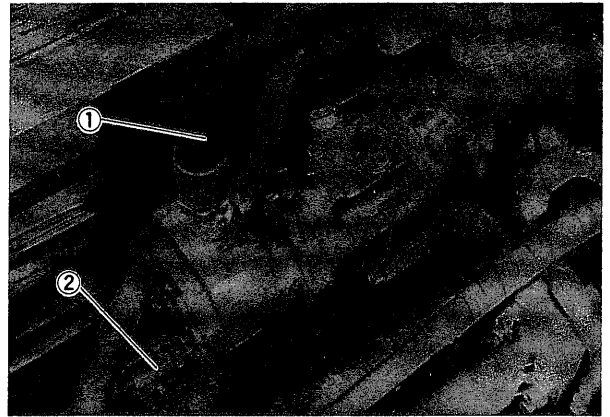

Fig. 108
- 1) Remove hoses ① and ②. (Fig. 108)